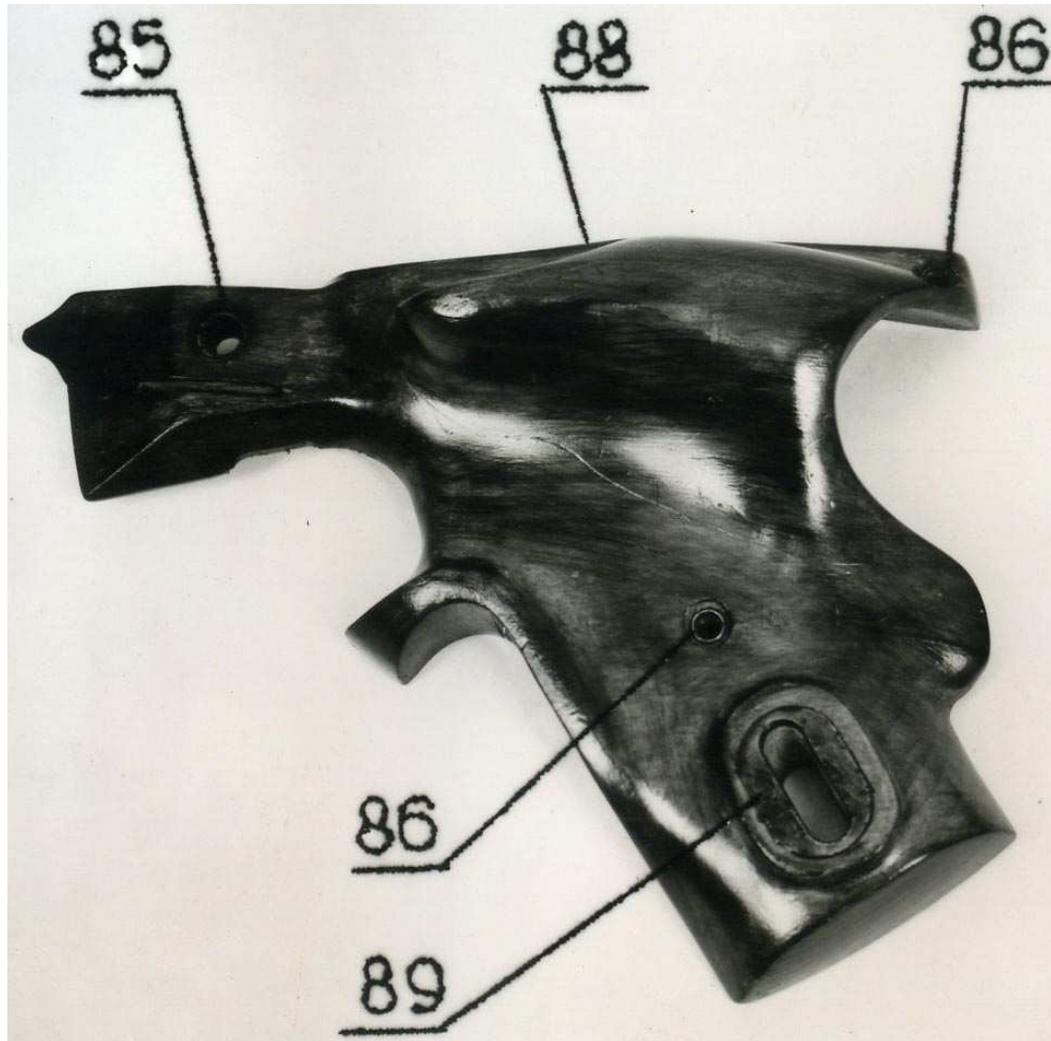

Figure 8.
To adjust trigger pull insert drift pin (104) through the longitudinal opening (88) in the left cheek (Fig. 8) into trigger spring (25) opening; shift the trigger spring in needed direction. Shifting the spring forward to front sight makes trigger pull lighter and shifting trigger spring backwards to rear sight makes trigger pull heavier.